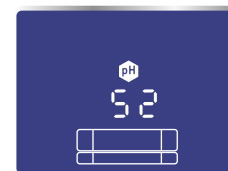

Fig. 1
Step 3. Press and hold the ALK 5 button until Display changes to look like figure 1.